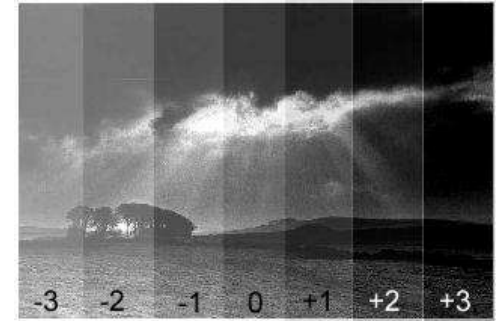

Fig.9
- 4 Place a piece of paper in the easel, and press \odot to expose the whole of the paper for the indicated time. The grade digit shows "t" to indicate a test strip sequence. Cover a strip of paper (about 1/7th) and press \odot again. Repeat this sequence, progressively covering the paper, for the complete test strip sequence of seven exposures (Fig.9).
- 5 One strip should be correctly exposed. If, for example, it is two strips to the darker side of centre, this indicates that the correct exposure is two exposure steps more than the Analyser's calculations. If it is one strip to the lighter side, that means one step less than calculated. The number of steps is the exposure compensation that is necessary for that paper type and grade combination. Fig.9 shows a correctly exposed test strip. If there isn't a correctly exposed strip, go to section 8.2.